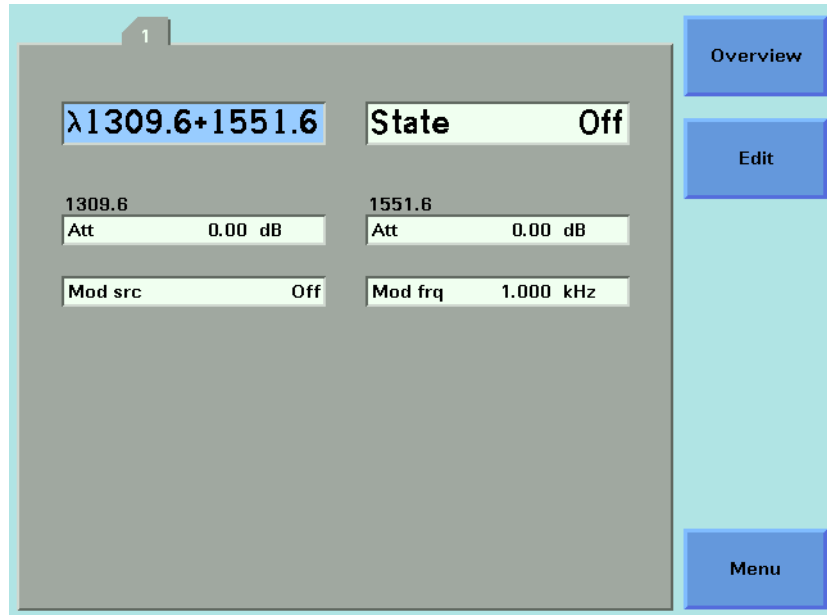

Figure 59 Dual-Wavelength Laser Source Outputs Both Wavelength
- 2 Select <1309.6+1551.6>, using the cursor key, and press *Enter*. You will see the screen in Figure 59 .